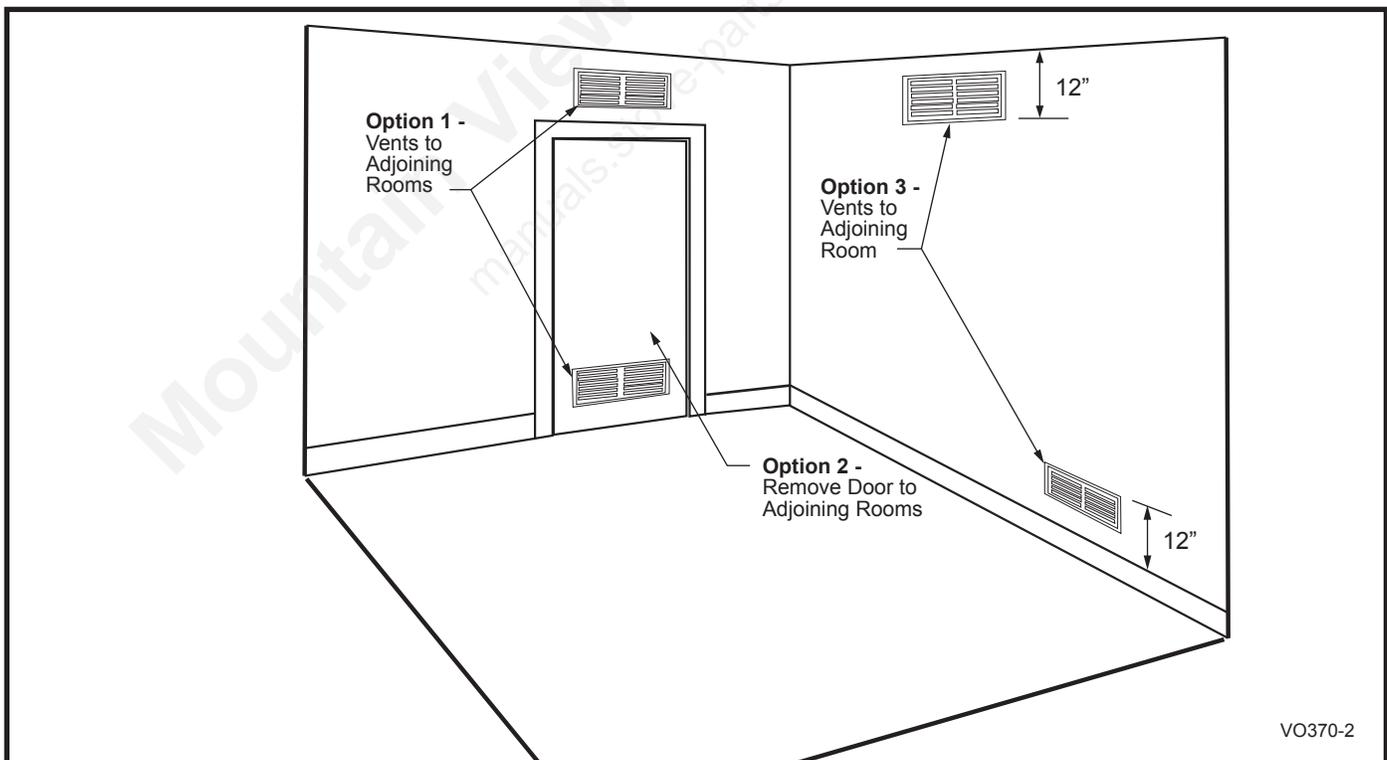

Fig. 2 Ventilaton options for confined spaces.
A. Open or provide at least two ventilating grilles to an adjoining unconfined space. (Fig. 2)